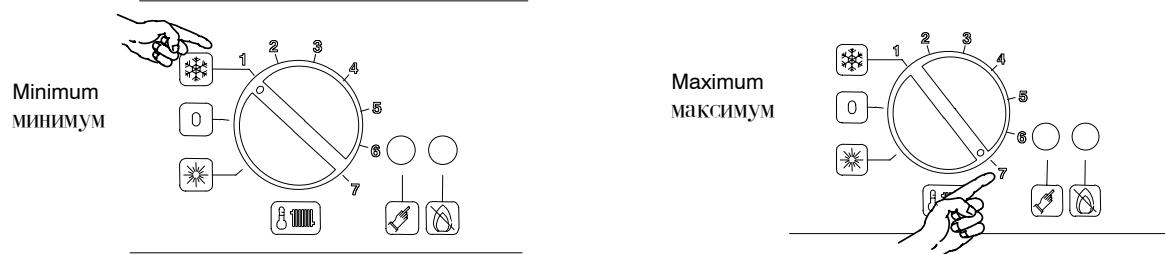

Fig.2.6
- If d.h.w. supply only is required, position the function switch 7 as in Fig. 2.6. The appliance operation light 9 will flash every 2 seconds (operating boiler).
The output temperature of c.h. water is adjustable from a minimum of about 38°C to a maximum of about 80°C (Fig.2.6), by turning the knob (7).